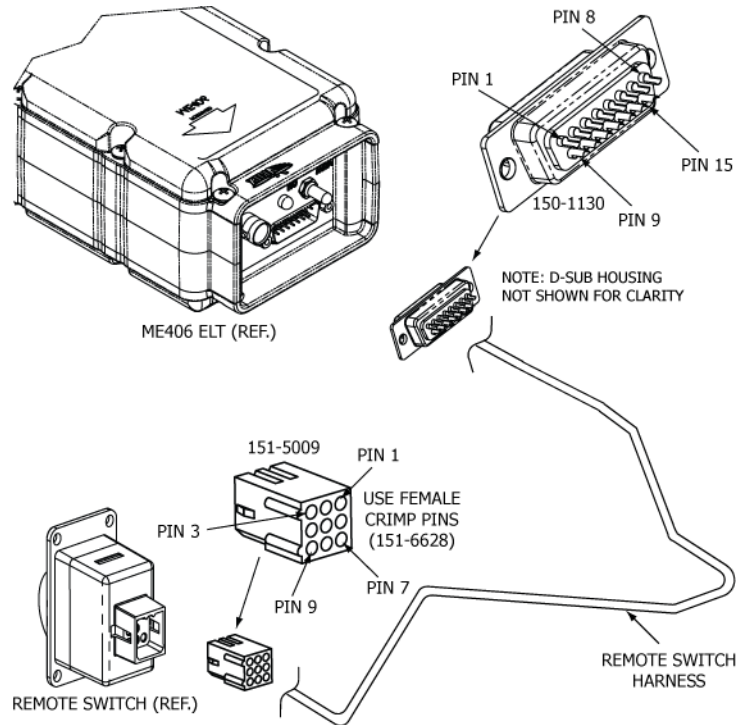

Figure 22 Remote Switch Harness Arrangement
- 1) See Figure 22 Remote Switch Harness Arrangement.